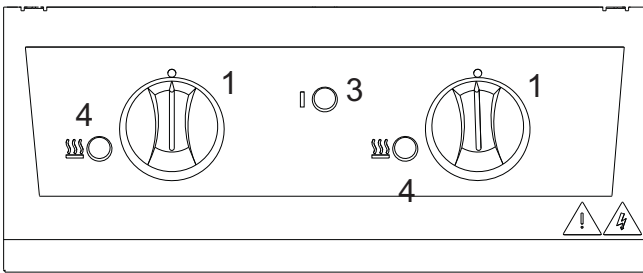

Figure 2 – E421F Control Panel
2.3.1 E421F Fryer Control Panel (See Figure 2)